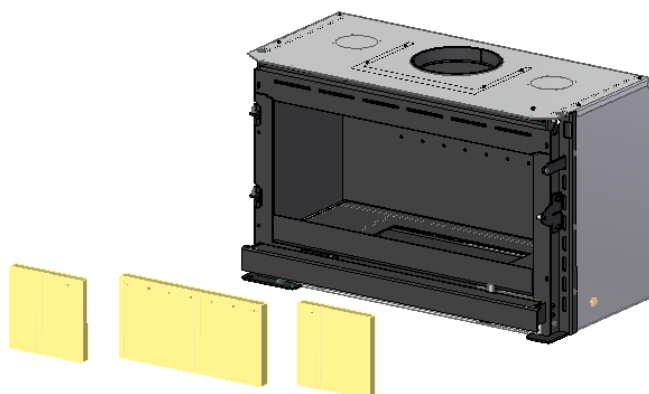

Figure 42 – Removing the vermiculite back parts from the equipment
4. Remove the 3 pieces from the back by moving to the front of the unit and rear to the outside of the unit, Figure 42.